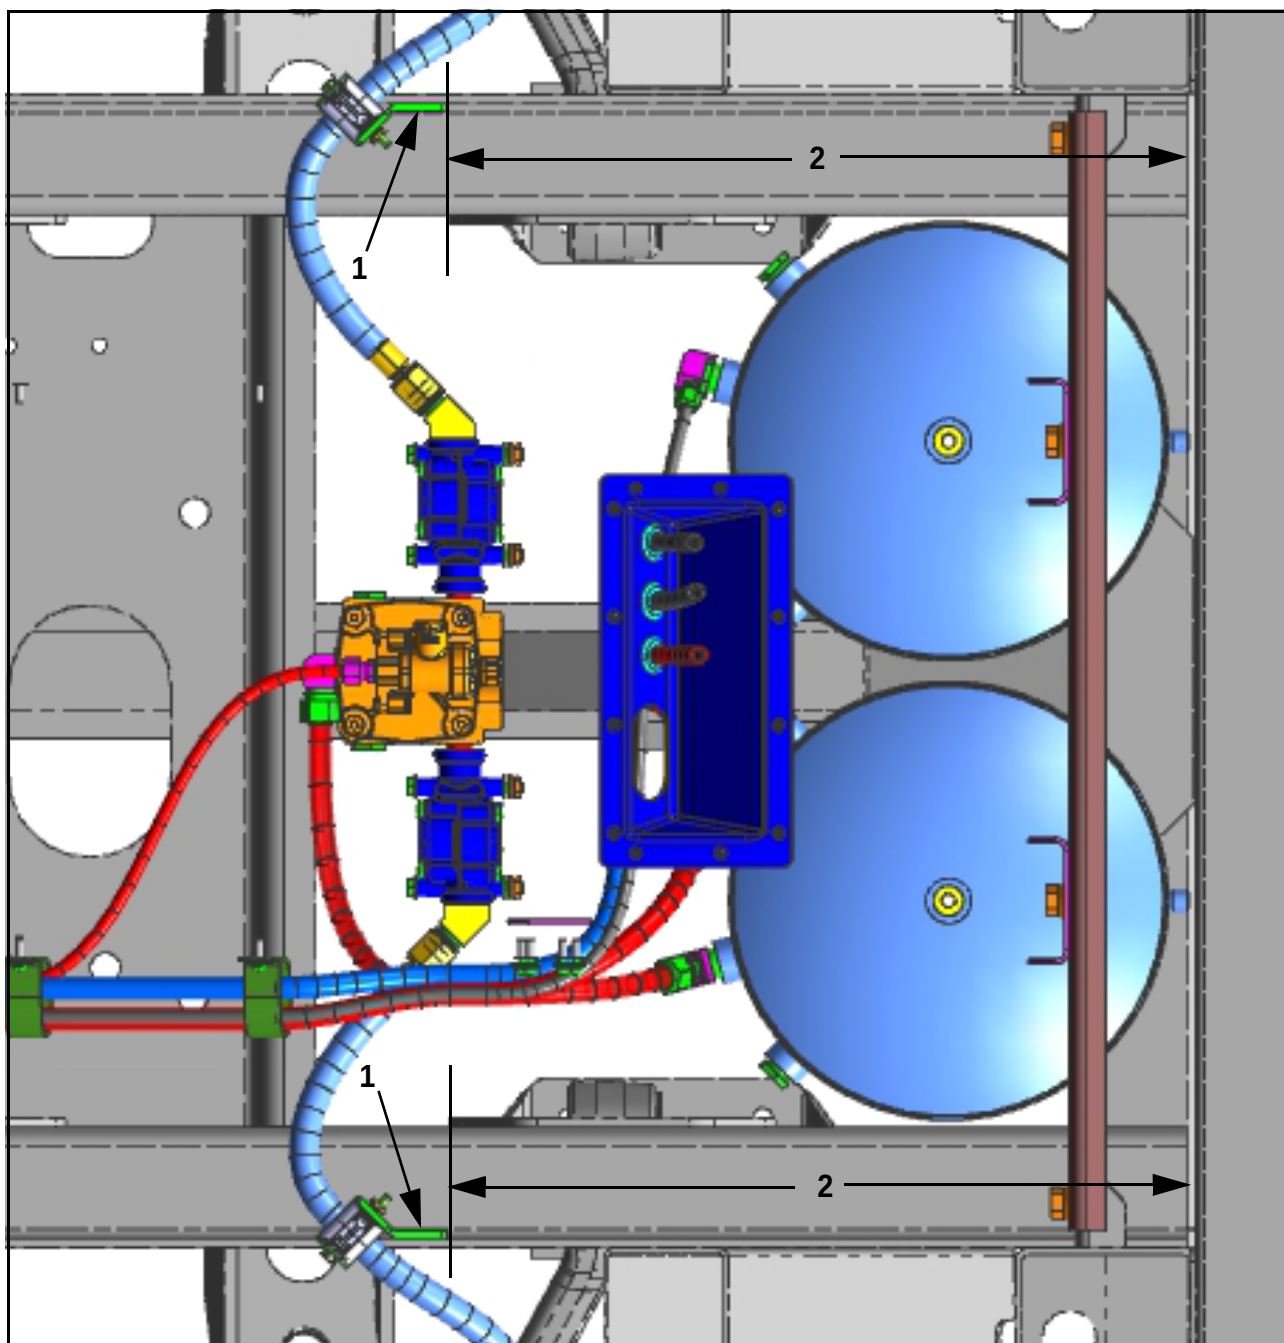

Figure 8. Clamp mount bracket location.
11. Position the new clamp mount bracket, p/n 03-53-1618, on the bogie channel as outlined as Item 1 / Figure 8. Mark a chalk outline around the entire bracket. Remove bracket. Repeat step to opposite side.
Item	Figure 8 Description
- was - 24** 25. Route the front brake hose assembly to the clamp mount bracket welded to the bogie channel. Remove and retain clamp assembly and the existing mounting hardware from the old mounting location (replaced by the new welded clamp mount bracket). Mount the clamp assembly and front brake hose assembly to the clamp mount bracket. Tighten clamp to secure the front brake hose assembly in position (refer to Figure 8).